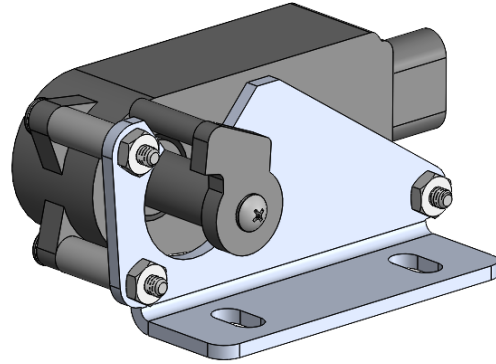

Figure 10
15. Slide the Active Shutter Motor Bracket over the modified Louver Arm, and secure it in place using the three #8 x 1-3/8 Machine screws. Space the bracket out from the motor using the supplied Nylon Spacers. The finished assembly is shown in Figure 10. Note the location of the Shutter arm. This is the "open position" it should have defaulted to.